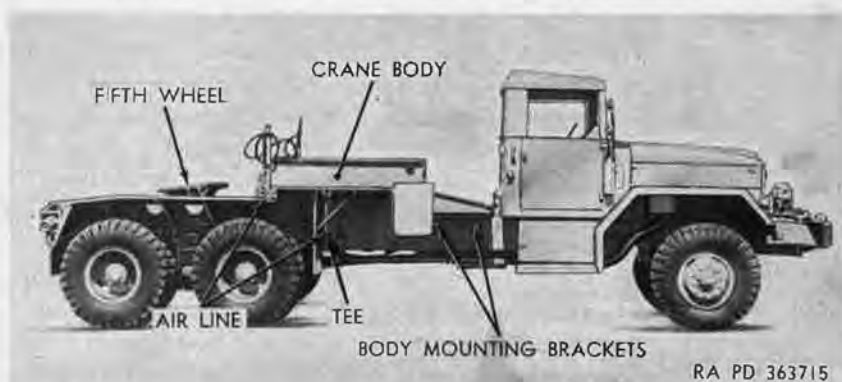

Figure 314. Right side view of tractor wrecker truck M246 with hydraulic crane and reservoir removed.
- (13) *Crane body.* The crane body (fig. 314) is bolted to the truck frame (after removal of the base plate and pivot post assembly) by four cap screws and safety nuts, installed two on each side through brackets bolted to the truck frame. In addition, the fifth wheel approach plates at the front of the crane body are bolted to the top flange of the truck frame side rails by six cap screws and safety nuts, three on each side. The approximate weight of the crane body, including the outriggers, is 2,200 pounds.